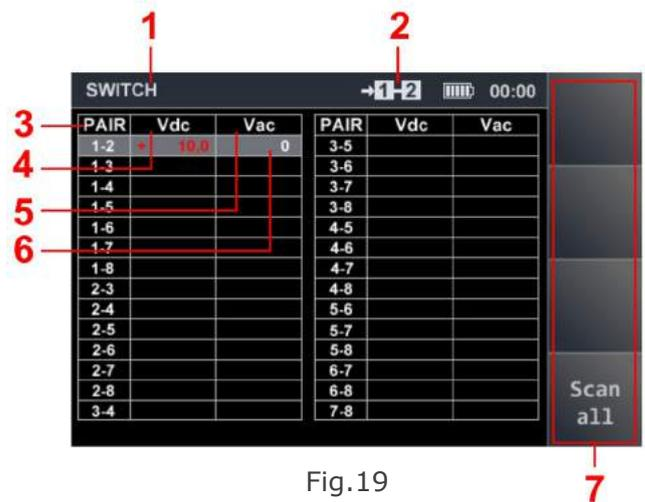
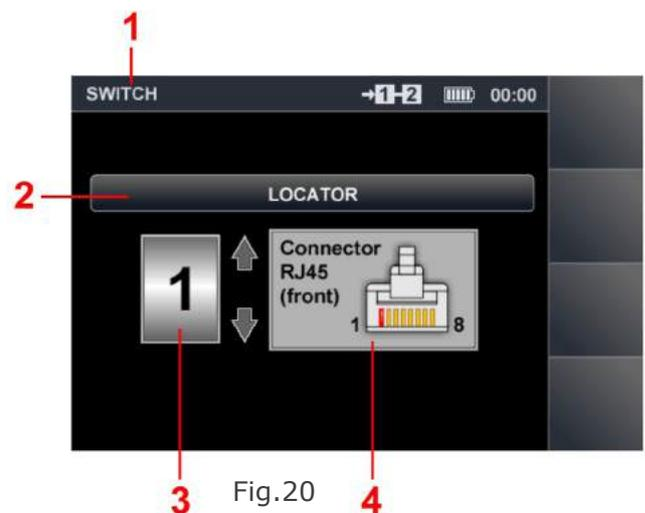

Fig.19
Fig.20
To activate this sub-mode from the "SWITCH" mode screen, press "MODE". The sub-mode menu (Fig.19) will appear on the screen. In the list of wire pairs, the one selected in the main menu will be highlighted by default. Voltages on these two wires will be measured, and the results shown in the table. Measurements on other two-wire combinations will not be performed.
- The figures in Fig. 19 represent:
Use the arrow keys to navigate the table; the number of the selected wire pair is indicated top of the screen (2, Fig.19). To exit the sub-mode to the "SWITCH" mode screen, press "MODE" or "ESC". The pair of wires highlighted with the cursor before exiting, will remain selected.
The screen will change to "LOCATOR" (Fig.20), and the test signal generator will turn on automatically.
In Fig.20 the numbers represent:
Set the wire number using the \uparrow and \downarrow keys. The selected wire number will be shown in the window (3, Fig.20) and in the graphics (4, Fig.20). The selected pair value in the corresponding field (2, Fig.19) will not change. To exit the mode to the "SWITCH" screen, press "ESC". The test signal generator will stop. All the settings made in the "SWITCH" mode will be saved.